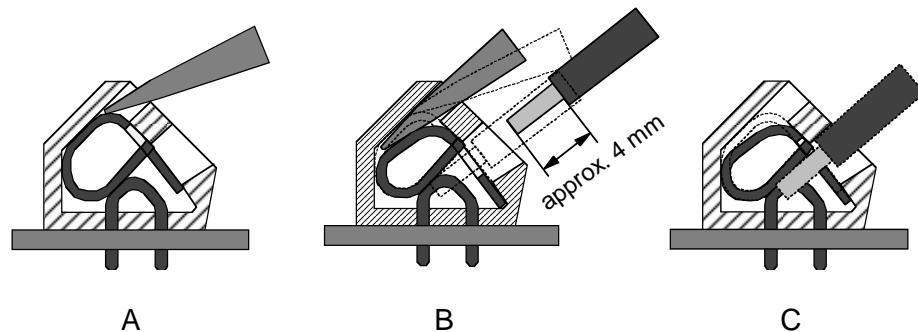

Fig. 17 Connection in screwless spring-loaded terminals
- Insert a size 1 screwdriver in the upper opening and insert it turning slightly upwards (Fig. 17 A).
- Now place the stripped connecting wire in the lower opening and hold it there securely (Fig. 17 B).
- Withdraw the screwdriver. The connecting wire is then firmly fixed (Fig. 17 C).
The insulation of the connecting line must extend as far as the terminal indentation, i.e. there must be no further bare part of the connecting line visible above the terminal edge (as shown in Fig. 17 C). Touching live parts is dangerous to life. The stripped part of the connecting wire should be shortened if necessary.